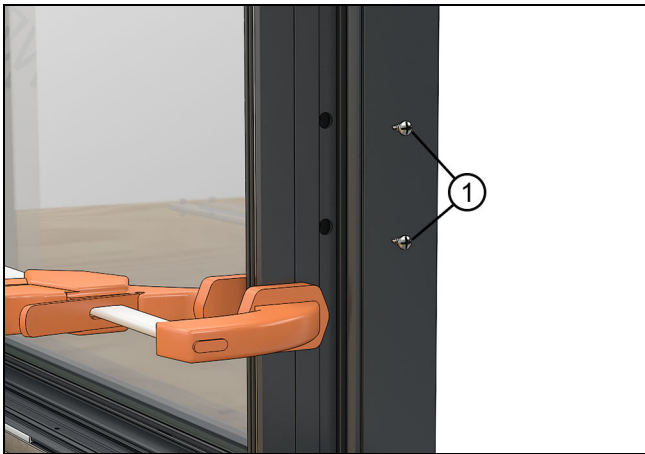

Figure 25
5. Fasten at the installation hole locations using the #8 x 7/16" self drilling fasteners. See Figure 25.